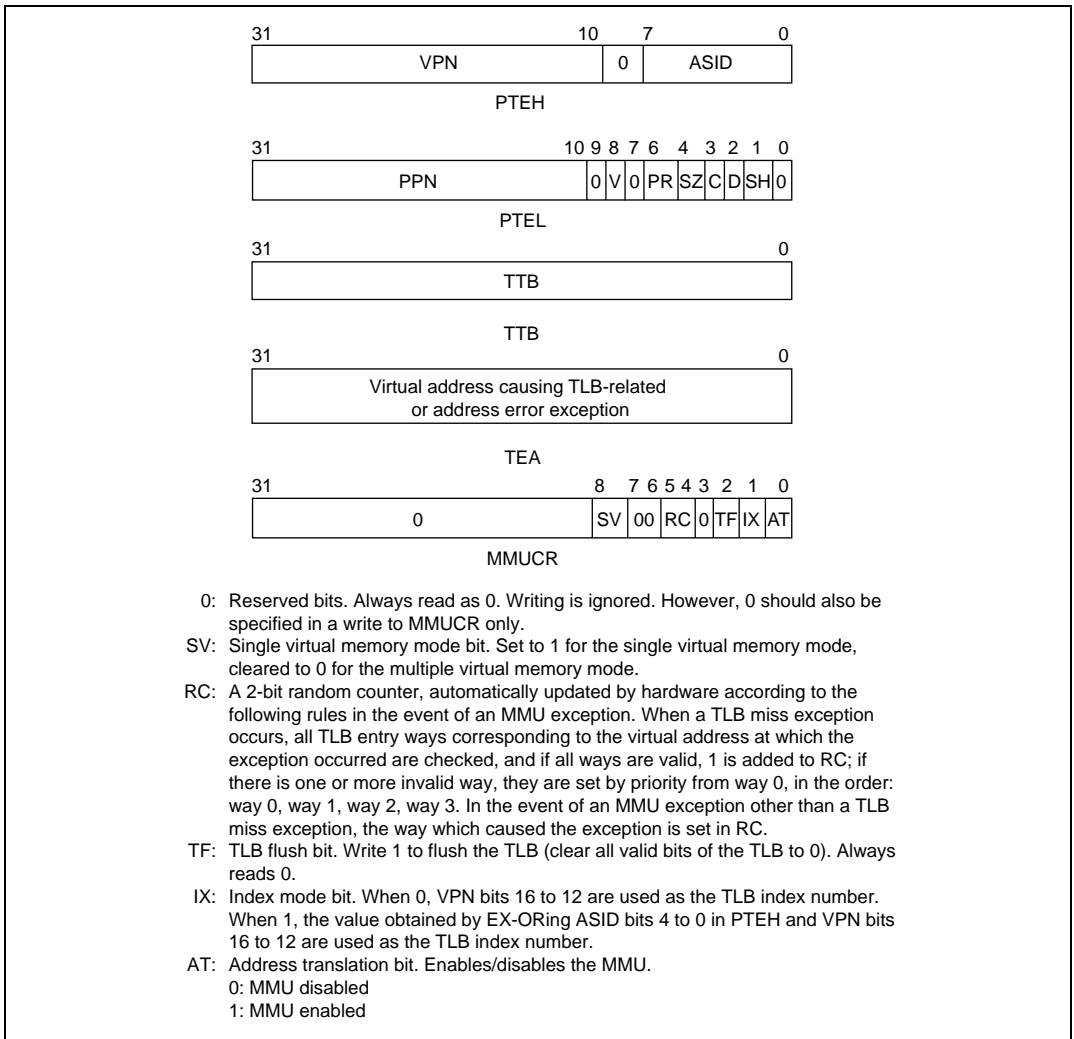

Figure 3.3 MMU Register Contents
5. The MMU control register (MMUCR) residing at address H'FFFFFFE0, which makes the MMU settings described in figure 3.3. Any program that modifies MMUCR should reside in the P1 or P2 area.
The MMU registers are shown in figure 3.3.